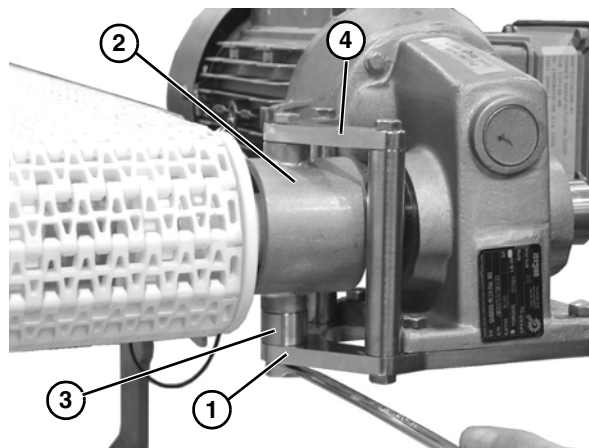

Figure 68
2. Remove the lower gearhead mounting bar (Figure 68, item 1) from the motor mounting bracket (Figure 68, item 2). Remove spacer (Figure 68, item 3).
3. Remove the upper gearhead mounting bar (Figure 68, item 4) from the motor mounting bracket (Figure 68, item 2).